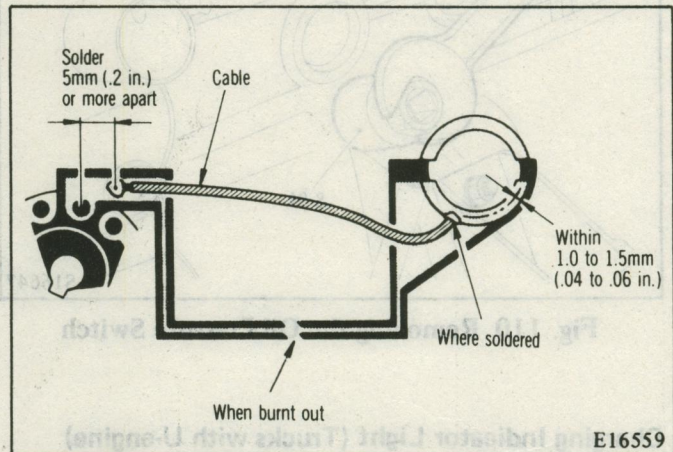

Fig. 114 Soldering Printed Wiring
(1) Trace both ends of the burnt out circuit, and solder a cable (covered wire) to the copper deposited over a wide area around the light socket.
(2) Soldering should be done within 1.0 to 1.5 mm (.04 to .06 in.) from the circumference of the copper deposition around the light socket as shown in Fig. 114. Also, solder the cable to the copper around the connector terminal more than 5 mm (.2 in.) from the connector. After soldering, check to see if the connector is easy to connect. When the copper rivet is soldered, use its head for soldering.